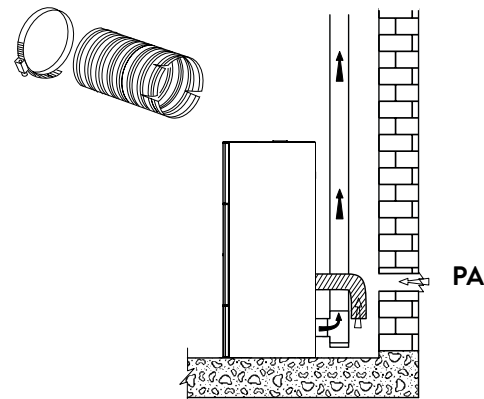

fig. 5.3
**The stove during operation takes a lot of air (even modest) in the environment where it is found, this air should be restored through an air intake outside the room (fig. 5.3 - PA = Air outlet).**